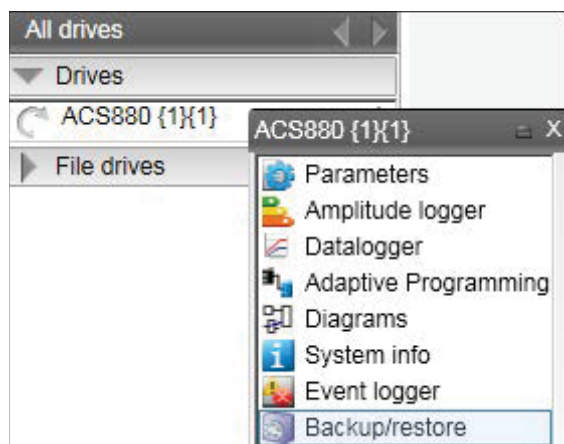

Figure 140. Backup/restore command
1. Click **Backup/restore**. See Figure 140.Backup/restore command.